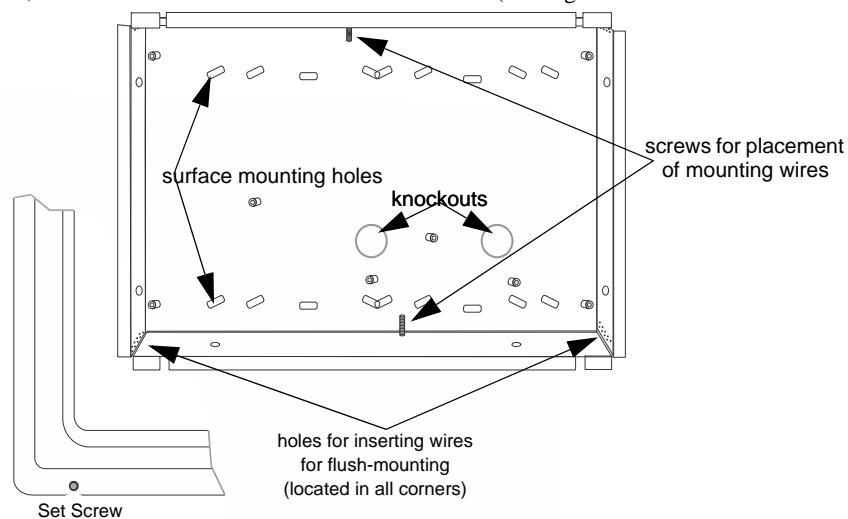

Figure 4.14 Annunciator Backbox and Bezel Details
The TR-RD1G/R comes from the factory fully assembled. You must disassemble it for mounting. To disassemble the annunciator, use a 5/64 hex wrench to remove the set screws, located on the bottom of the annunciator bezel. (See Figure 4.14 for location of the set screws.)
1. Drill holes in the surface to match the screw holes on the backbox. Refer to Figure 4.14 for locations.
5. Replace the electronic assembly in the backbox. Place the bezel over the backbox and tighten the set screws on the bezel. Refer to Figure 4.14 for location of set screws.